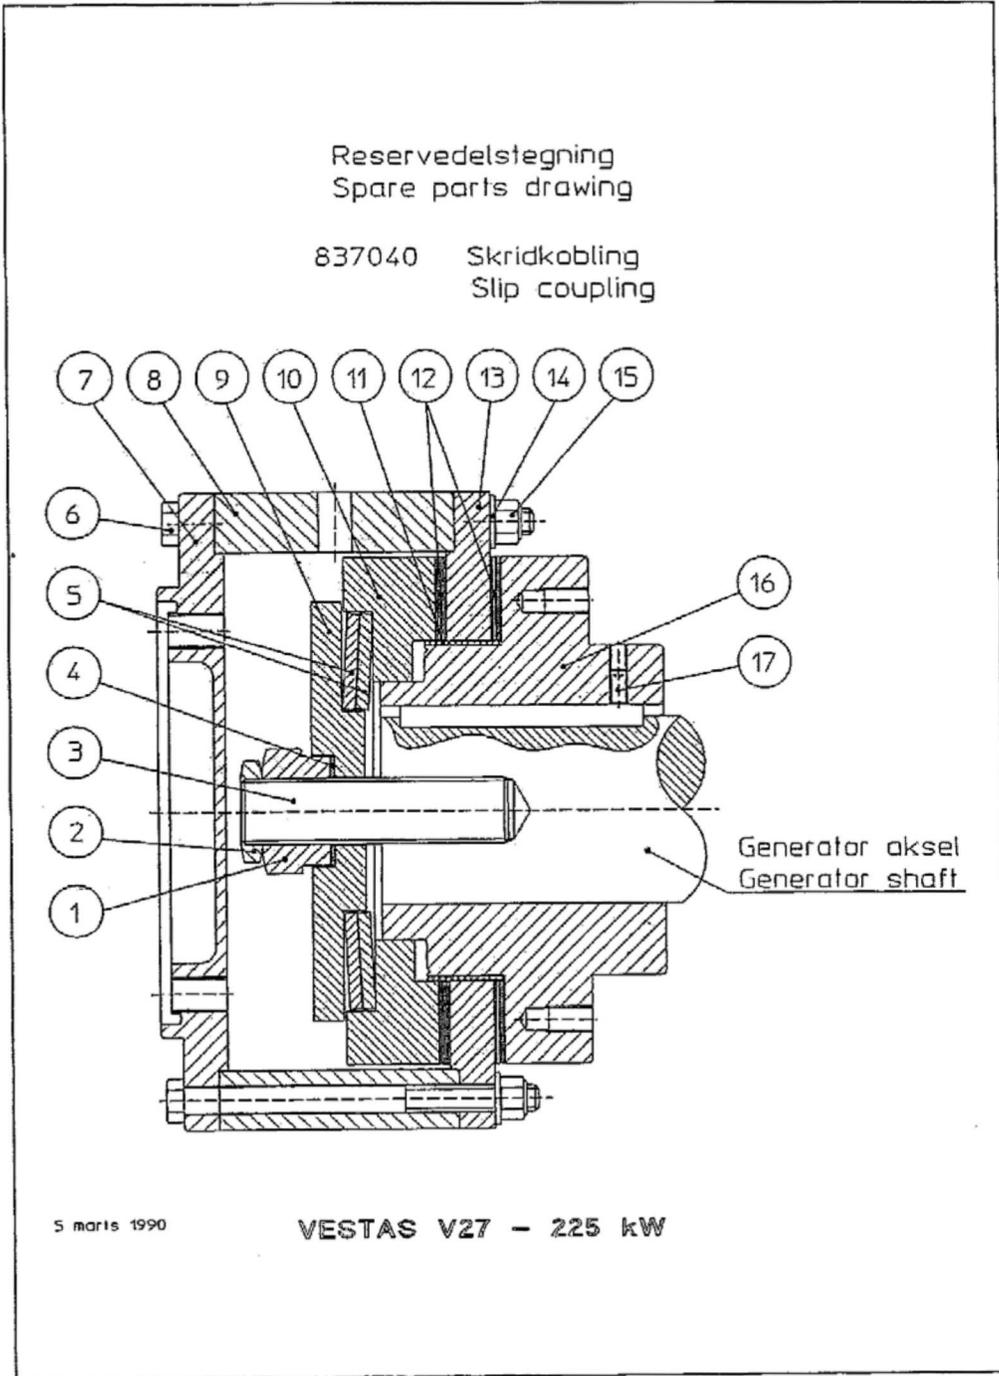

Figure 4-52. Spare parts drawing, slip coupling
1. Select and tighten two of the bolts to the flange coupling-transmission shaft (pos. 15, Figure 4-52, using a torque wrench setting of 66 Nm (49 ft.-lbs.)
3. Tighten the retainer to the hub (pos. 16, Figure 4-52) with 2 pcs. M10 x 30 12.9 allen screws.
4. Remove the transmission shaft and the flange coupling-transmission shaft (pos. 7, Figure 4-52).
5. Tighten the nut (pos. 1, Figure 4-52) until the measure “A” is equal with the cut in the thrust plate (pos. 13, Figure 4-52).
6. Tighten the counter nut (pos. 2, Figure 4-52) using a torque wrench setting of 200 Nm (148 ft.-lbs.).